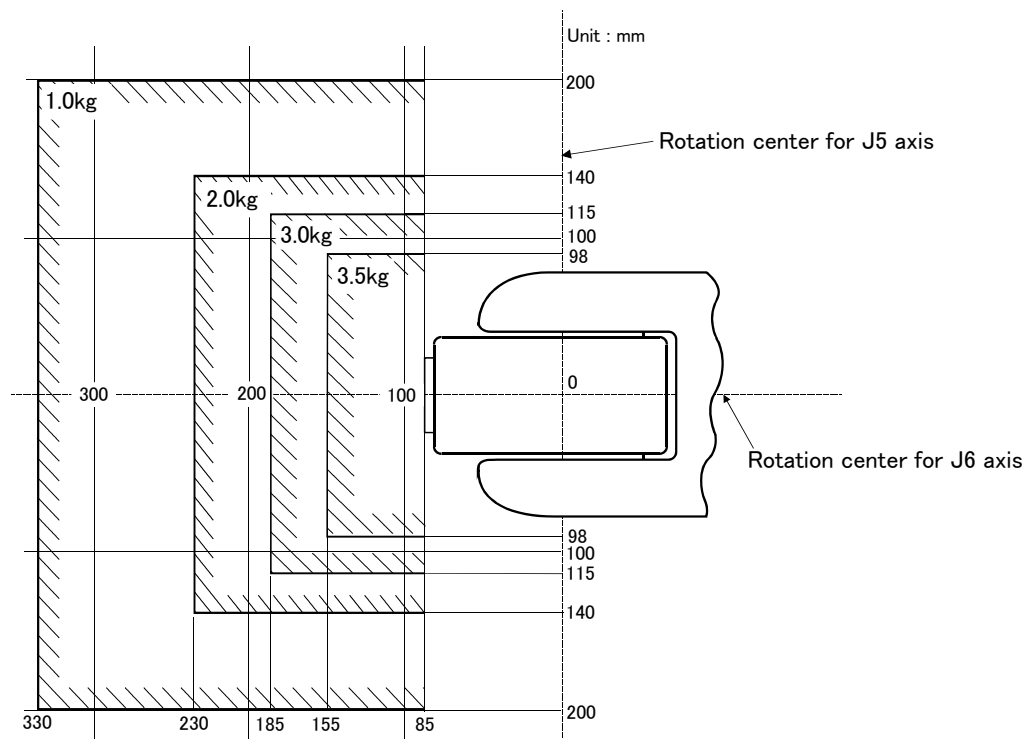

Fig.2-1 : Position of center of gravity for loads (for loads with comparatively small volume)
- (1) The tooling should have the value less or equal than the smaller of the tolerable inertia and the tolerable moment found in Page 5, "Table 2-1 : Tab Standard specifications of robot"
- (2) Fig. 2-1 shows the distribution dimensions for the center of gravity in the case where the volume of the load is relatively small. Use this figure as a reference when designing the tooling.
- (3) When the load is not mass, but force, you should design the tooling so that it does not exceed the value for allowable moment described in Page 5, "Table 2-1 : Tab Standard specifications of robot"